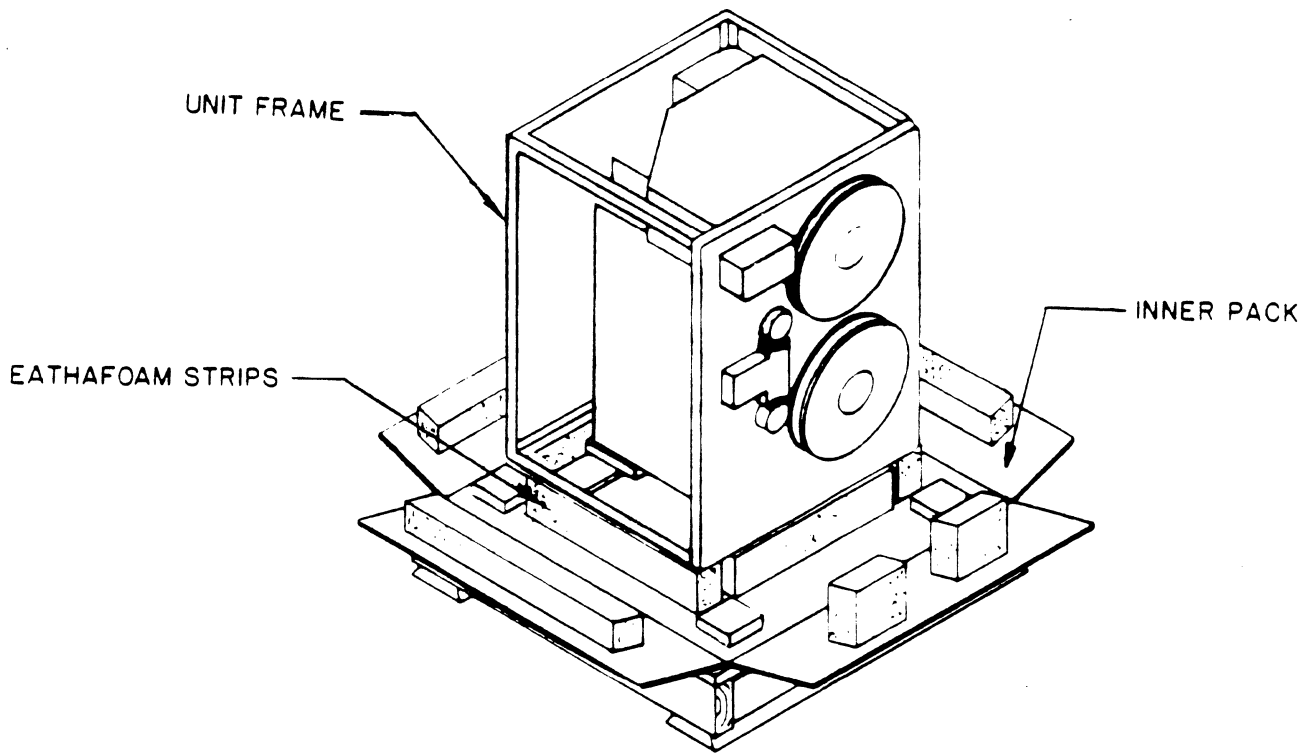

Figure 3-16. Packaging For Reshipment
- d. Securely grasp and lift tape drive unit by steel frame (one person on either side), and place it onto top of ethafoam strips that are bonded to bottom surface of bottom inner tray (refer to figure 3-16).